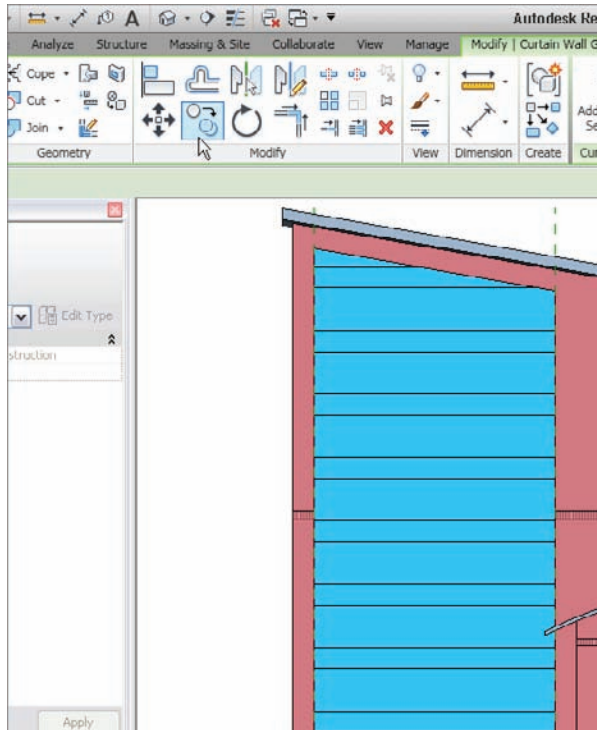

FIGURE 16.32 Copying the grids to form the custom curtain wall
9. Repeat this pattern until you've reached the top of the wall (see Figure 16.32).